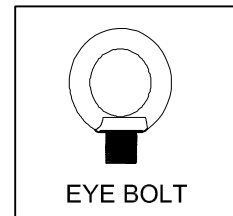

Figure 2.
- Eye Bolt - Use a support chain or cable with a carabiner, S hook, eye hook, or spring clip (supplied by others) and attach to the fixture's eye bolt. Fig. 2